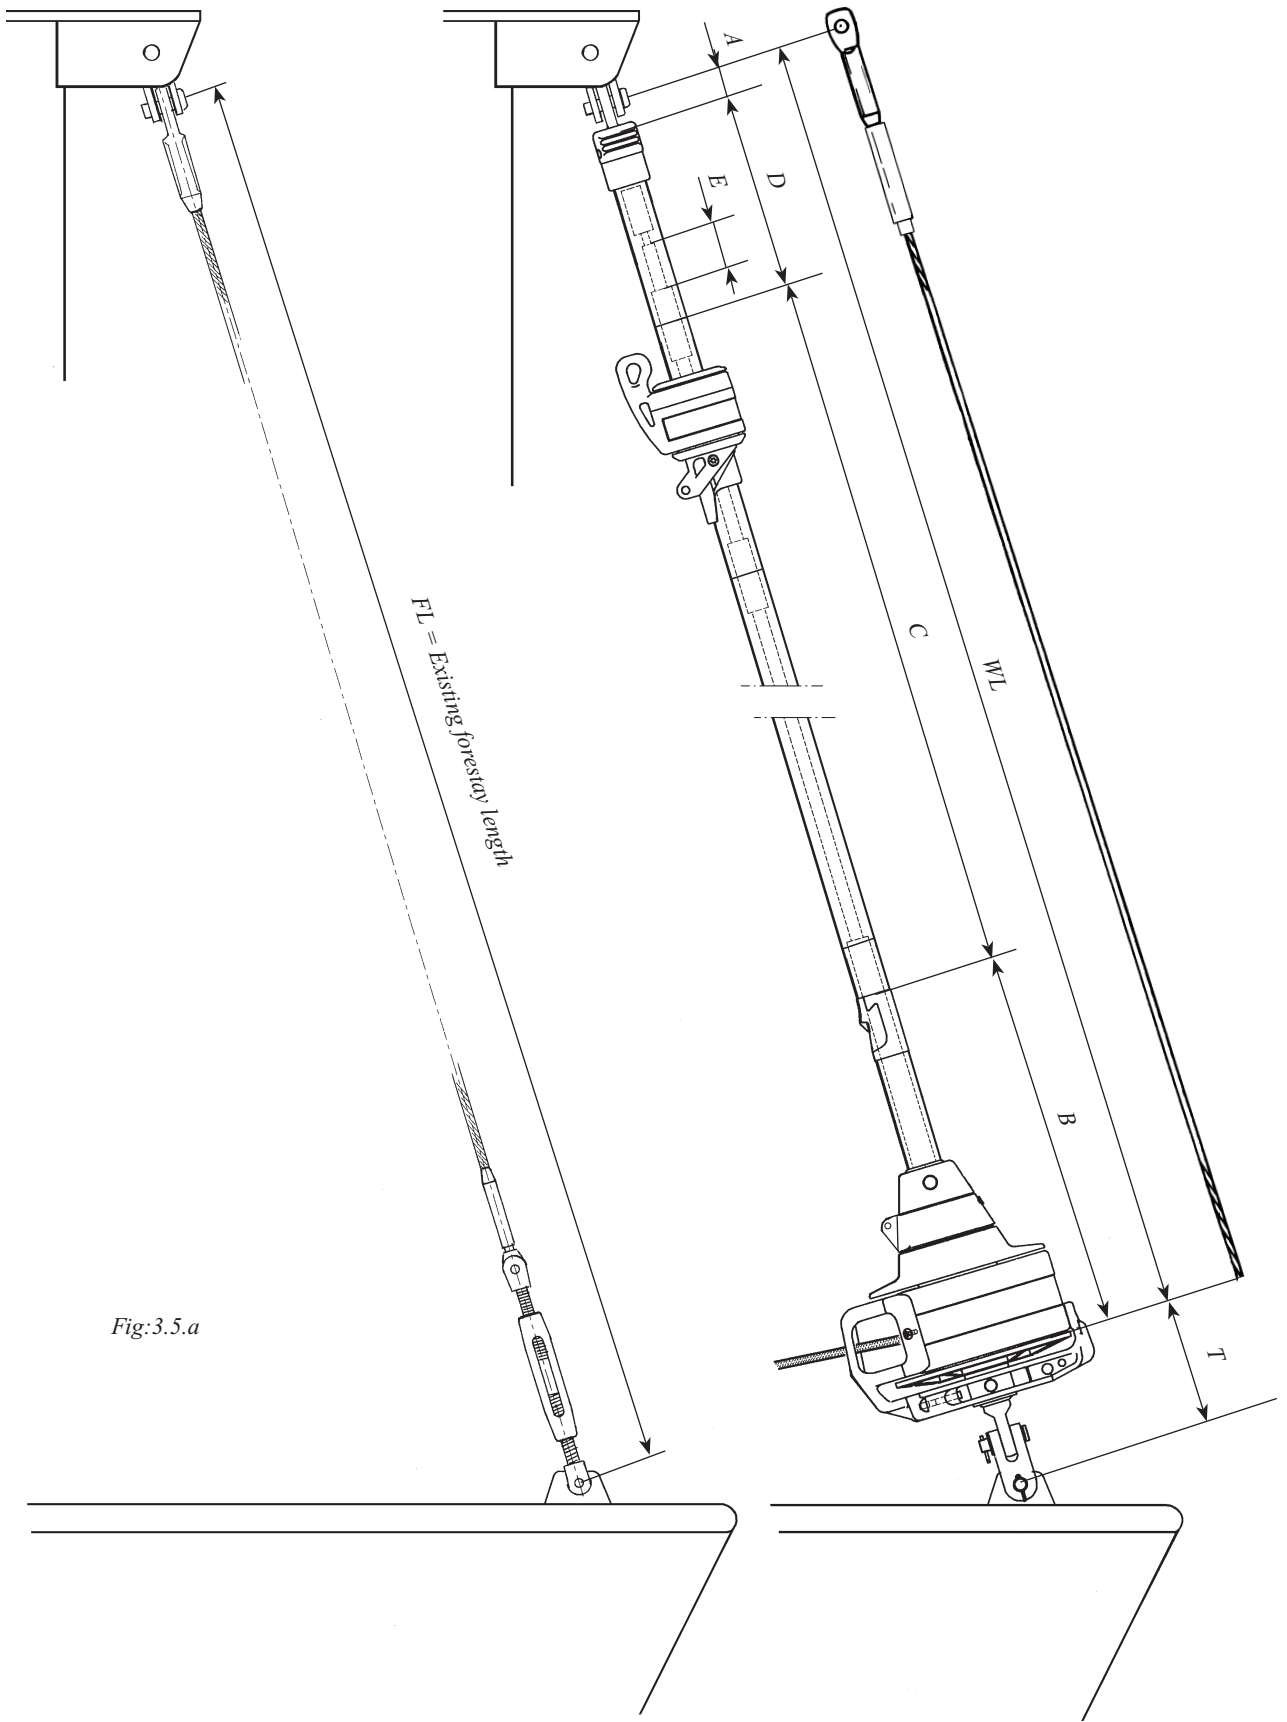

Fig:3.5.a
16. Check the length FL of the stay acc. "Table 1" (3.5.1) & Fig: 3.5.a. If the Furlex rigging screw is fitted, it should be 50% extended. ("Rigging screw adjustment", see table 14.1.1.)